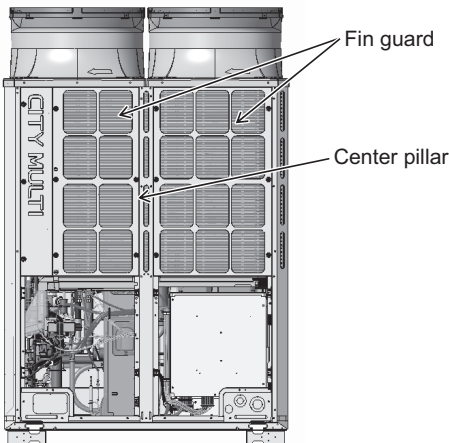

Figure 1
- (4) Remove the center pillar by unscrewing the five screws. (See Figure 1.)